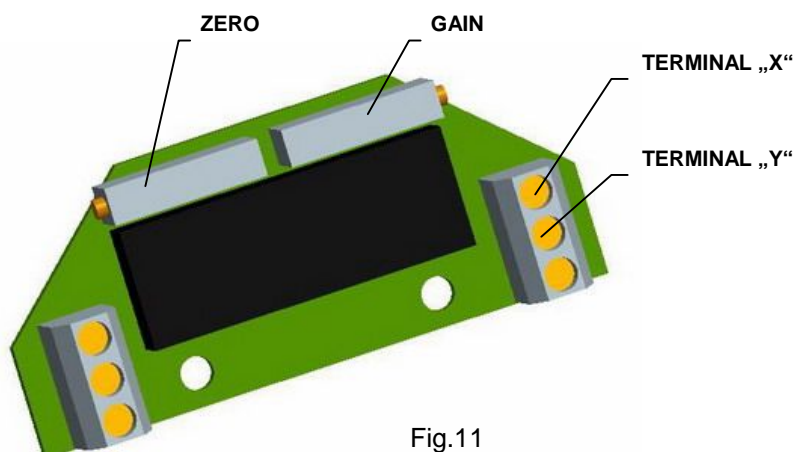

Fig.11
#### EPV – 3-wire version (Fig. 11)
- Adjust the resistive transmitter according to the previous chapter. The resistance is to be metered on the terminals X-Y (Fig. 11). The used transmitter resistance is 2000 W or 100 Ω.
- Turn the adjusting trimmer ZERO (Fig. 11) to adjust the output current signal rate measured on the terminals 81-82 to 0 mA or 4mA.
- Turn the adjusting trimmer GAIN (Fig. 11) to adjust the output current signal rate measured on the terminals 81-82 to 20mA or 5 mA.